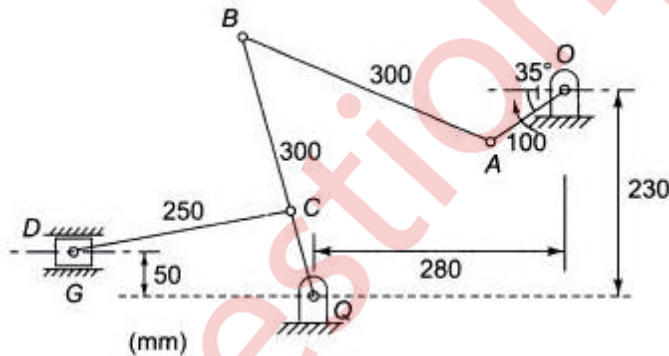

fig 1
2 (a) Fig 1 shows a mechanism in which $OA = QC = 100$ mm $AB = QB = 300$ mm $CD = 250$ mm. The crank OA rotates at uniform speed of 150 rpm in clock wise direction. Determine the (a) velocity of slider at D (b) angular velocities of links QB and AB (c) rubbing velocity at the pin B which is 50 mm in diameter. (12)